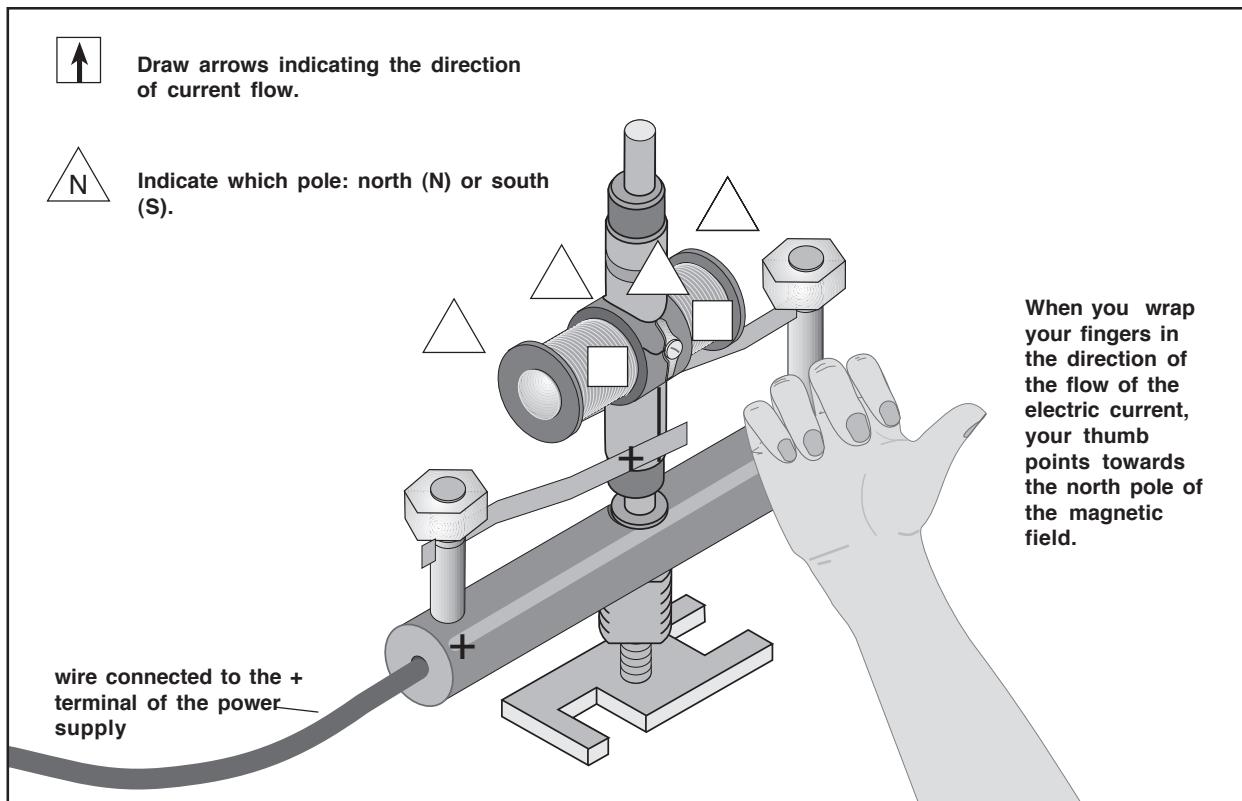

Figure 4. Determining the Direction of the Magnetic Field of the Coil Using the Right-Hand Rule
- ④ Holding the armature in one hand, imagine that the brush from the + lead is touching one of the split rings of the commutator. Follow the wire from the split ring to the right coil of the armature and note the direction the wire is wound in the coil. Note where the wire enters the coil and where it exits.
- ⑤ Use the right-hand rule to determine the direction the magnetic field will flow when you turn on the power: Grasp the coil with your fingers wrapped around the coil in the direction of the current (Figure 4). (Current direction is described by convention as being from the positive to the negative lead. Note that this is opposite of the direction of electron movement—see note on page 10) . Your thumb will point in the direction of the field — that is, toward the north pole of the coil). Put a small piece of tape on the end of the armature that will be its north pole when you turn on the power.
- ⑥ Follow the wire over to the left coil. Use the right hand rule to find the direction of the north pole.
Record your observations on Figure 4.